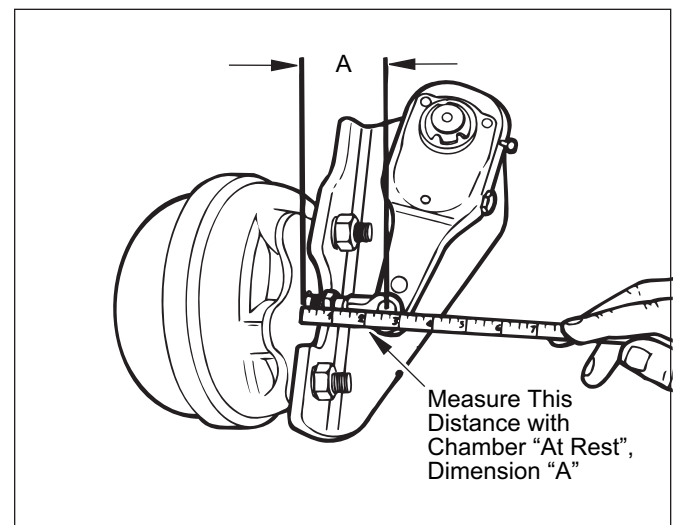

Figure 8. Measurement, At Rest
2. With air chamber pushrod fully retracted, measure distance from face of air chamber to centerline of clevis pin hole. Refer to Figure 8. If the measurement is not within ranges shown in Table 2, reposition clevis. Remeasure the distance and repeat until within range. Record exact measured distance as dimension "A".